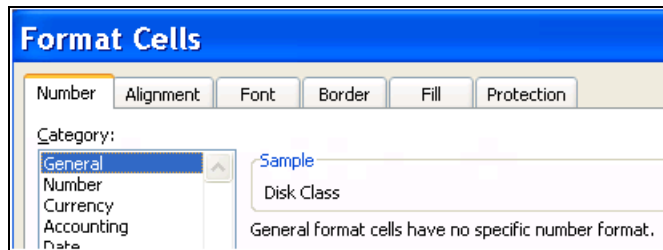

Figure 13 Formatting the new column as General
12. Then, add a heading for the column and format the cells as **General** so that the formula can be evaluated (Figure 13).